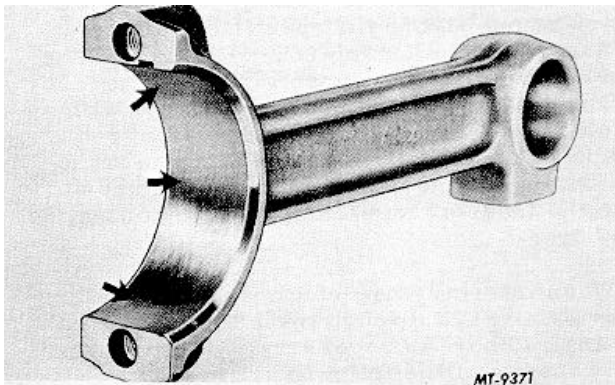

Fig. 77
3. Surface Finish: The connecting rod bore must be smooth, Fig. 77.